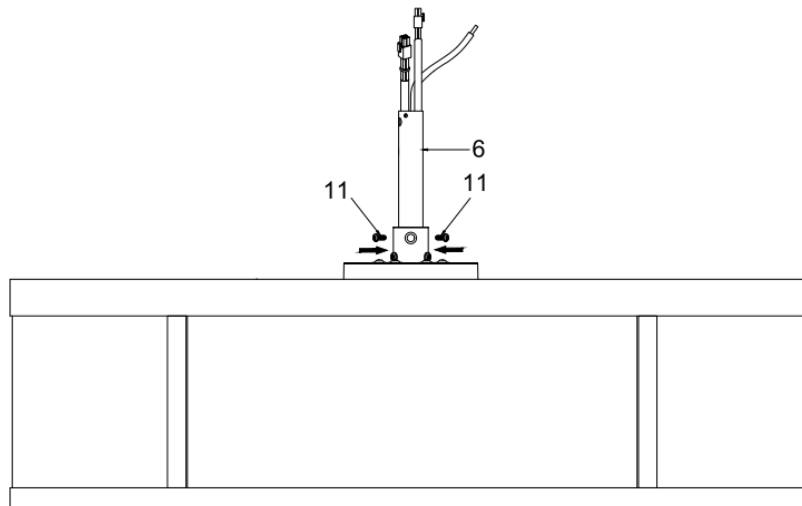

Fig. 5.4
5. Secure the down rod (6) by tightening the set screws (11). (Fig. 5.4)